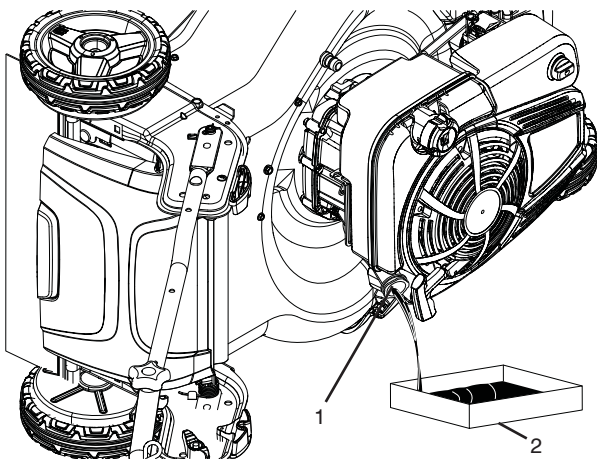

Figure 20
3. Tip lawn mower on its side as shown and drain oil into a suitable container. Rock lawn mower back and forth to remove any oil trapped inside of engine (Figure 20).